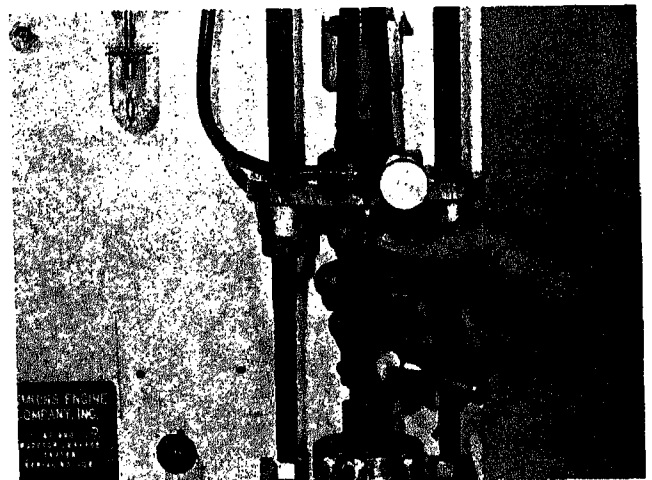

Fig. 6-1-36. Rotating plunger top
9. Rotate plunger top in clockwise direction by very small increments and observe flow meter reading. See Fig. 6-1-36. Do not touch plunger top or any part of clamping mechanism while taking reading since external forces will dislodge plunger from its normal position and may affect bottom-to-plunger leakage on orifice area.